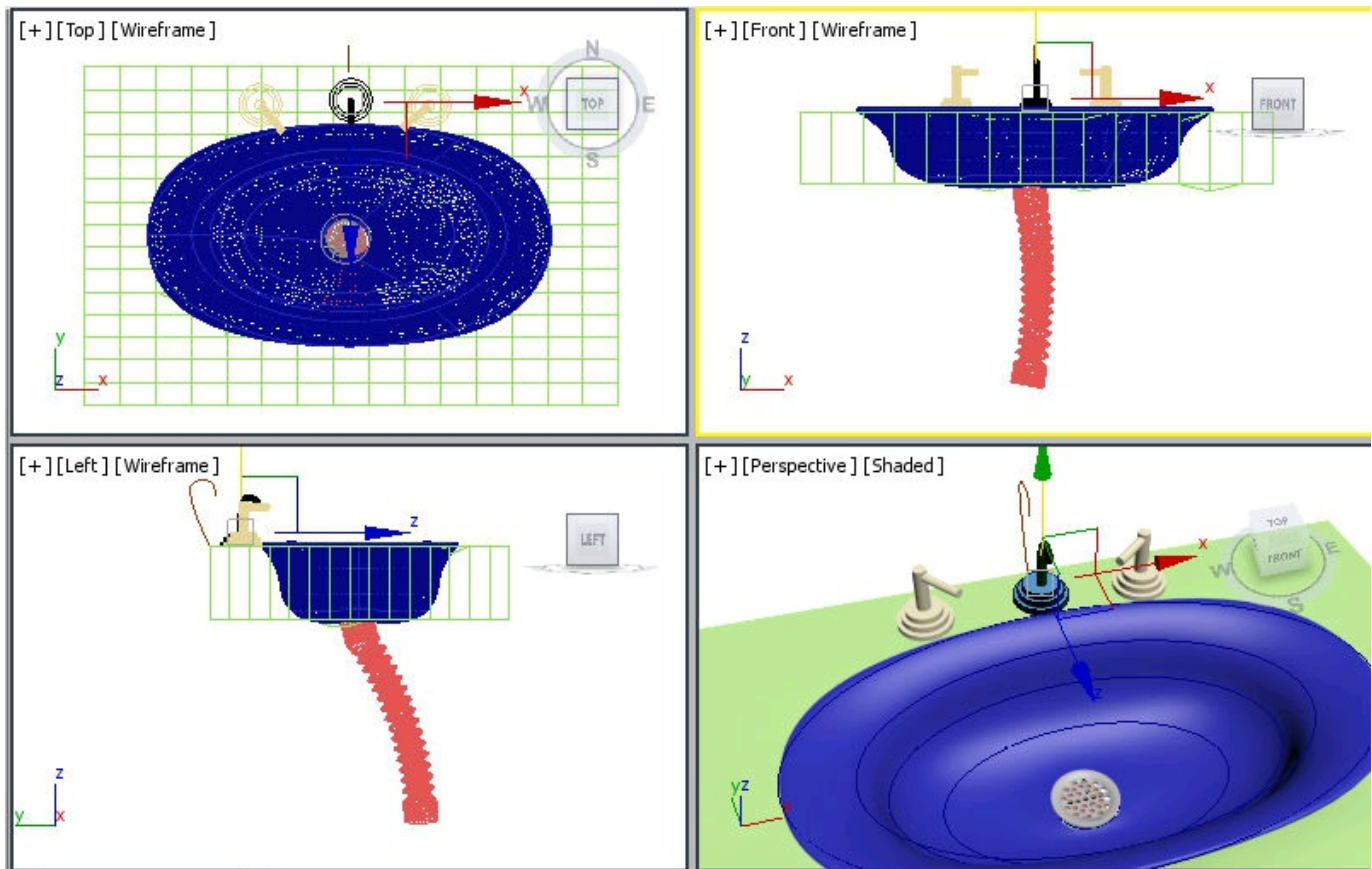

Figure 10-79 Alignment of the main tap in viewports
10. Group *base* and *upper tap* as *main tap* and then align it, as shown in Figure 10-79.